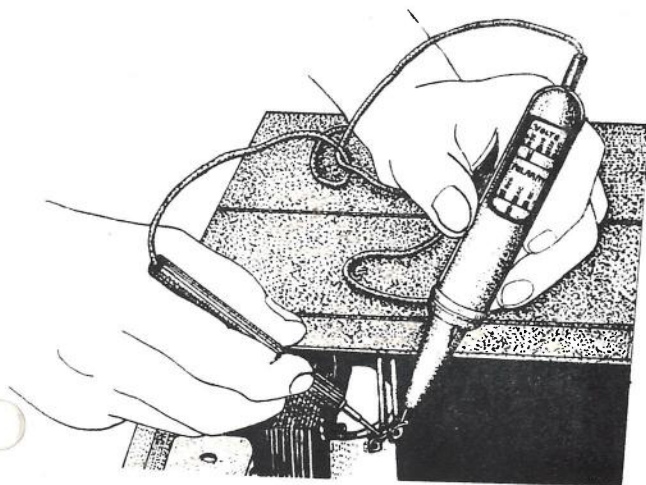

Figure 4-9. Measuring Line Voltage on Transformer with Voltage Indicator-Probe
(1) The presence and magnitude of line voltage at junction boxes and power transformers can be indicated. Figure 4-9 shows the Probe in use indicating the presence of AC voltage at a power supply transformer.